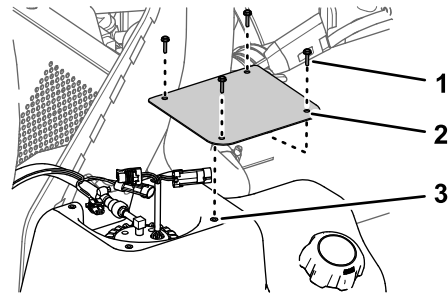

Figure 83
2. At the fuel tank, remove the 4 screws (#10 x 3/4 inch) that secure the cover to the top of the fuel tank, and remove the cover (Figure 83).